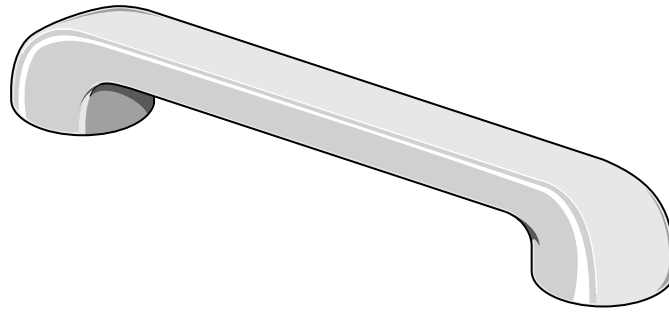

Fig. 3
- 3 Fig. 3 shows a handle made from aluminium alloy.
- (a) Give **one** suitable finish for the handle shown in Fig. 3.
- (b) Describe **two** ways in which ergonomics has been considered in the design of the handle shown in Fig. 3.